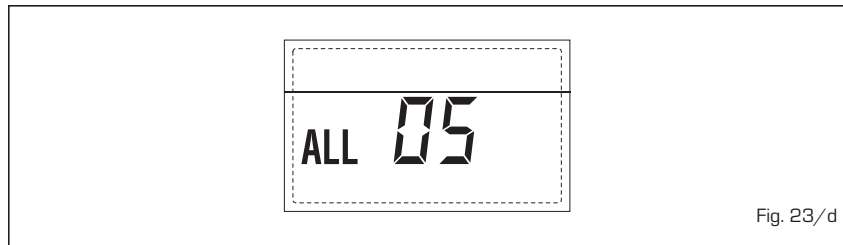

Fig. 23/d
- **BLOQUEO LLAMA “AL 06” (fig. 23/e)**